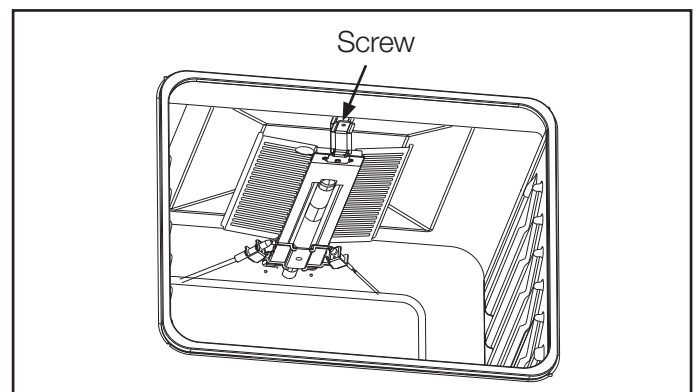

Figure 6
1. Open the oven door and locate the retaining screw on the tip of the grill burner as shown in figure 6.